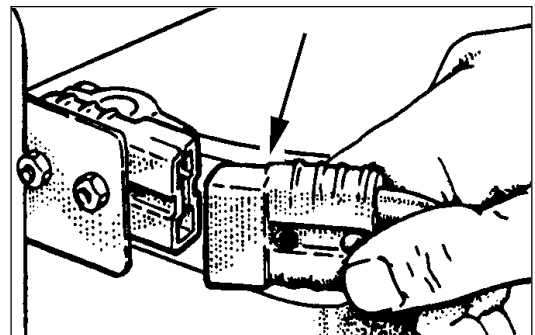

Figure 30
2. Disconnect the battery pack connector from the control housing connector. See figure 30.